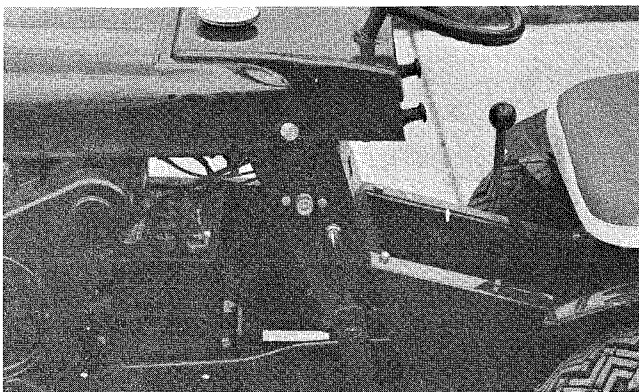

Figure 3
4. Install hydraulic lift lever, (part number 2265), using the same bolts and hair pin cotter. (See Figure 3)
5. Re-install starter button and ignition switch on the left side of the hood stand assembly in the holes provided as shown. (See Figure 3)